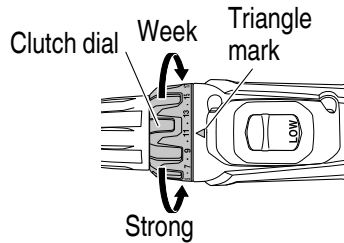

Fig. 14
- (1) Tightening torque
- (2) Tightening torque indication (See Fig. 14)
- (3) Adjusting the tightening torque (See Fig. 14)